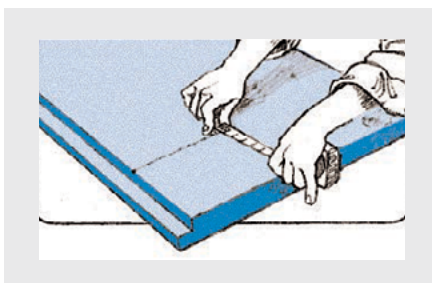

Figure 1
1. To measure, mark board by dragging measuring tape hook along the surface of a board while holding the other end of the tape at the desired measurement (Figure 1).